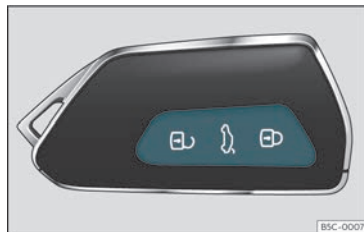

Fig. 74 Remote control key: buttons.
- Lock: press the  button >>> **Fig. 74.**